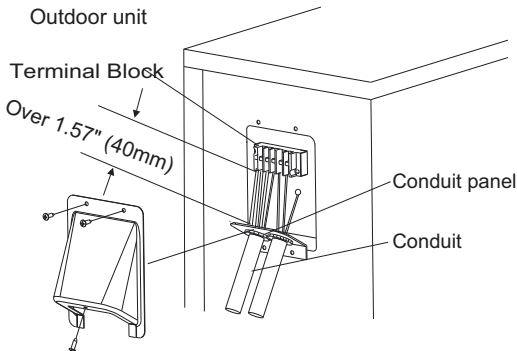

Fig. 11 – Field Wiring
5. Connect the conduit to conduit panel (see Fig. 11).